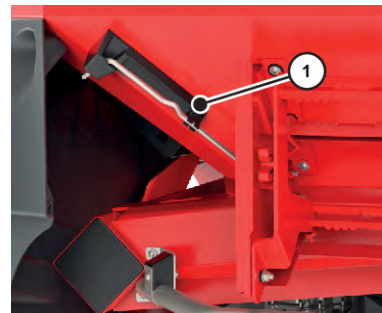

Fig. 31: Position of the AXIS 25 adjustment lever
- ▶ Put the adjustment lever back into the designated bracket. See *Fig. 31 Position of the AXIS 25 adjustment lever*